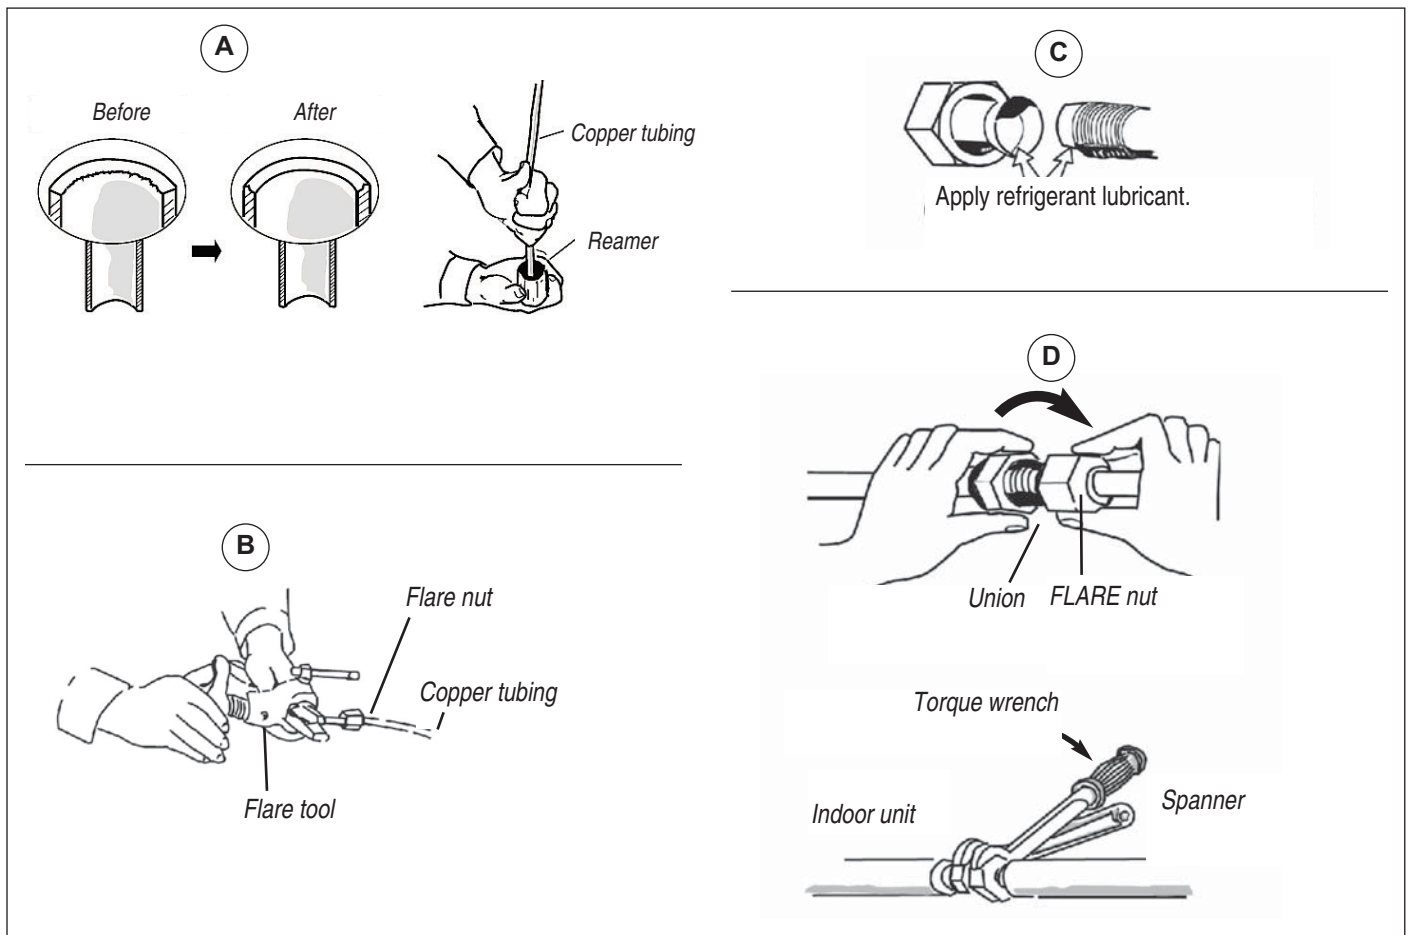

fig. 8
7.8 DX COIL SECTION (FIG. 8)
- Remove burrs at each end of the copper tubing with a tube reamer *m* file (A fig. 8).
- Make a flare at the end of the copper tube with a flare tool (B fig.8).
- Be sure to apply refrigerant lubricant (ether oil) to the inside of the flare nut before making piping connections (C fig. 8). This is effective for reducing gas leaks.
- Adjust the shape of the liquid tube using a tube bender at the installation site and connect it to the liquid tubing side valve using a flare (D fig. 8).